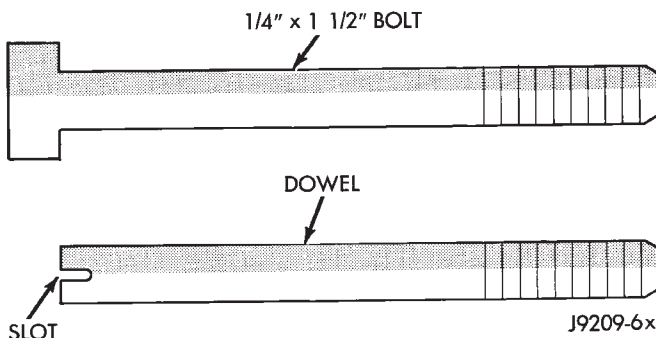

Fig. 47 Fabrication of Alignment Dowels
(1) Clean the block and pan gasket surfaces.
(2) Fabricate 4 alignment dowels from 1 1/2 x 1/4 inch bolts. Cut the head off the bolts and cut a slot into the top of the dowel. This will allow easier installation and removal with a screwdriver (Fig. 47).